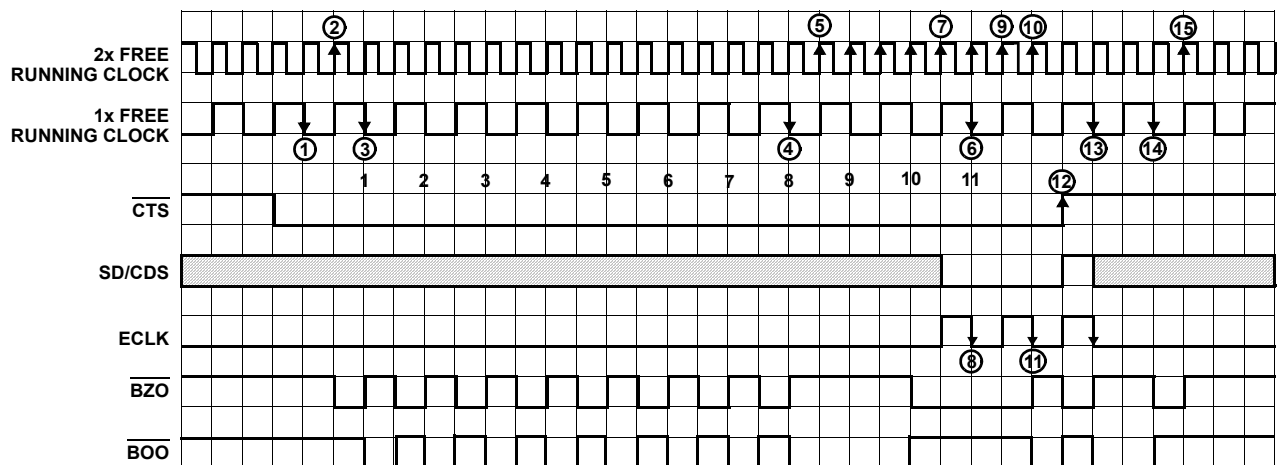

FIGURE 4. ENCODER INPUT TO OUTPUT TIMING DIAGRAM
Figure 4 illustrates the operation of the HD-6409 encoder section. The encoder operates with 1x and 2x free running clock signals taken from the 16x or 32x oscillator clock from the Divide-by-X circuit. The encoder outputs $\overline{BOO}$ and $\overline{BZO}$ will both remain high and ECLK will remain low while $\overline{CTS}$ is not asserted. The encoder cycle begins when the $\overline{CTS}$ control line is toggled to a '0' state. The next falling edge of the 1x clock ① latches the $\overline{CTS}$ signal. The next rising edge of the 2x clock ② outputs the following: